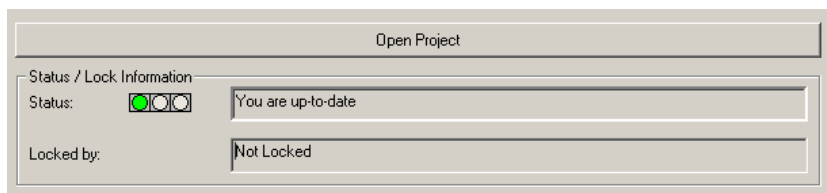

Figure 165. FF Management Aspect
2. Click **Open Project** in the selected **FF Management** aspect or via **context menu** (refer to Figure 165).